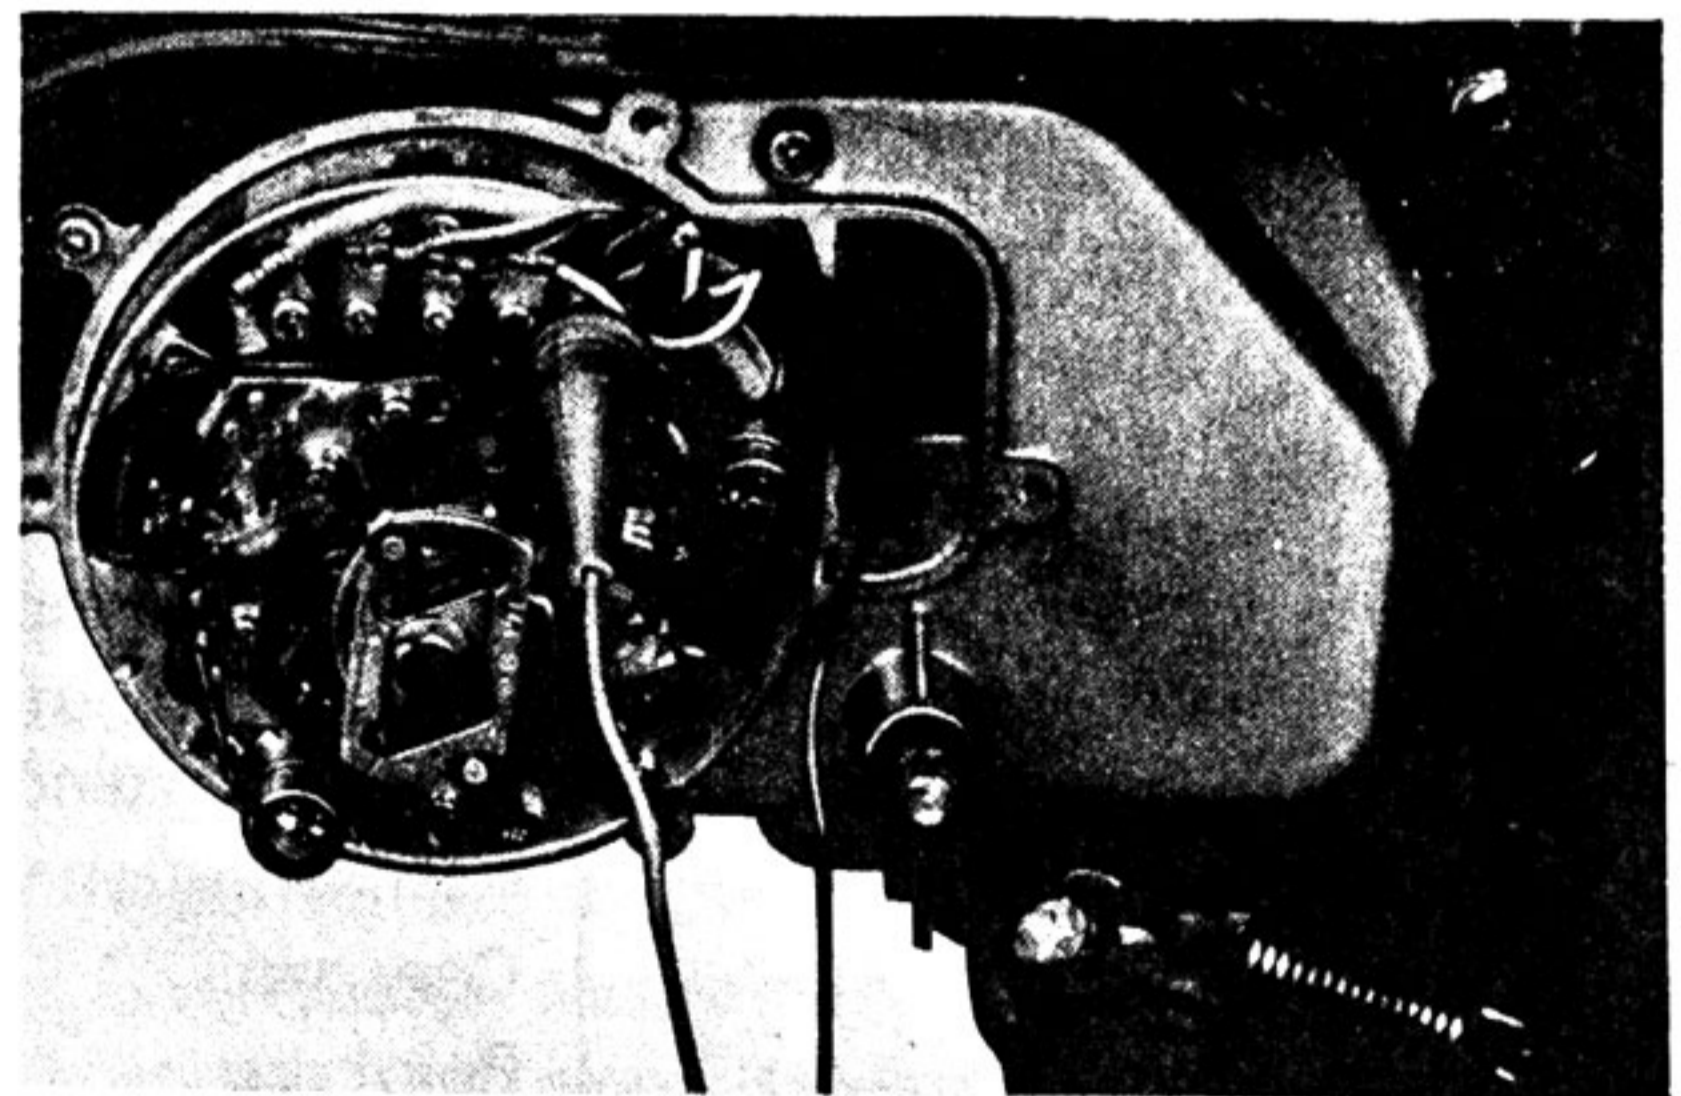

Fig. 6-6-3
- Disconnect the lead from the dynamo A terminal, connect the tester positive lead to the A terminal, and then ground the negative lead to the frame. (Fig. 6-6-3)